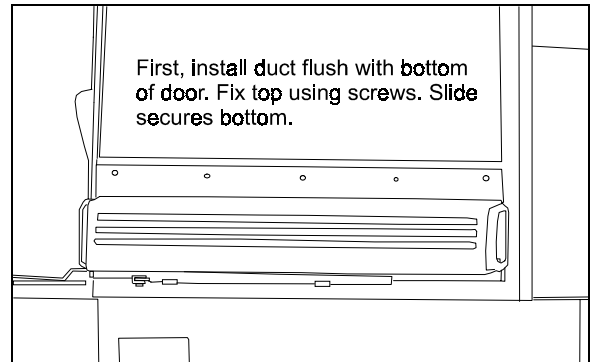

FIGURE 11
4. Install duct flush with bottom of door (refer to figure 11).